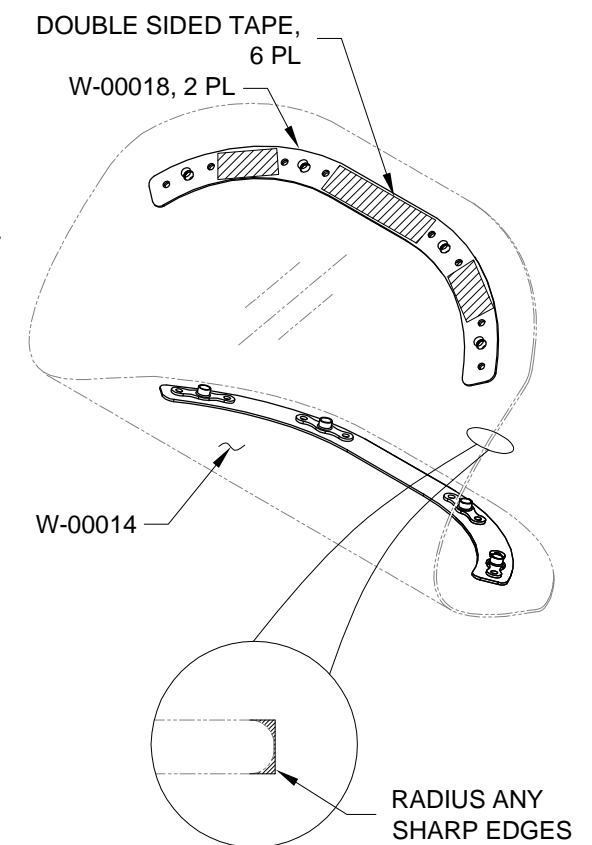

FIGURE 5: FINAL LENS SHAPE
Step 8: Radius any sharp edges of the W-00014 Lens as shown in Figure 5.
Step 9: Use double sided tape or equivalent adhesive to secure the W-00018 Backing Strips to the inside face of the W-00014 Lens as shown in Figure 5.